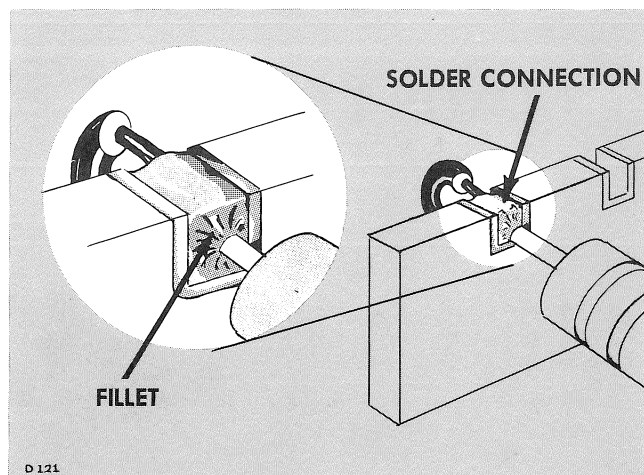
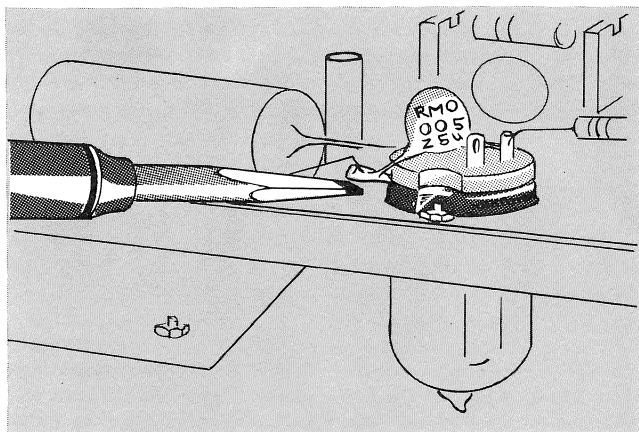

Fig. 4-3. A slight fillet of solder is formed around the wire when heat is applied correctly.
Fig. 4-4. Soldering to a terminal. Note the slight fillet of solder—exaggerated for clarity—formed around the wire.
6. Do not attempt to fill the notch on the strip with solder; instead, apply only enough solder to cover the wires adequately and to form a slight fillet on the wire as shown in Fig. 4-3.
In soldering to metal terminals (for example, pins on a tube socket) a slightly different technique should be employed. Prepare the iron as outlined above, but tin with ordinary tin-lead solder. Apply the iron to the part to be soldered as shown in Fig. 4-4. Use only enough heat to allow the solder to flow freely along the wire so that a slight fillet will be formed as shown in Fig. 4-3.